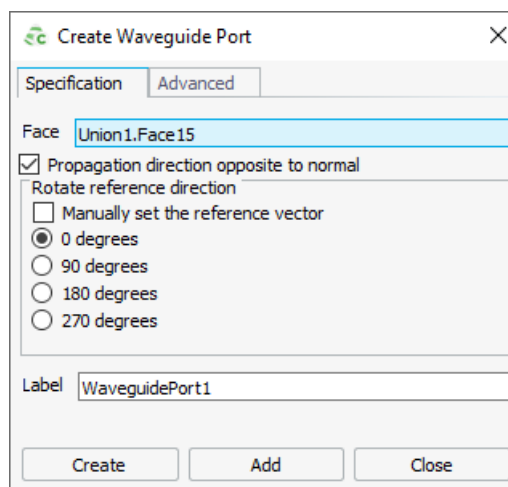

Figure 144: The **Create Waveguide Port** dialog.
- a) On the dialog, click on the **Face** user input field to make it active. An active field is highlighted in blue (see Figure 144).